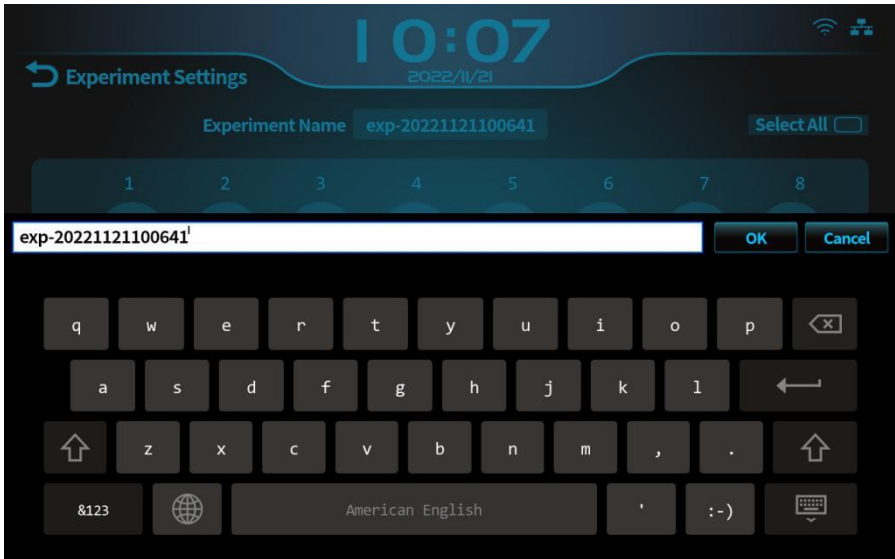

Figure D-2.1 Run Setting Interface – Keyboard
2. **Experiment Name**: Press **Experiment Name** input box and the interface will pop up a keyboard for users to name the new experiment file, as shown in figure D-2.1.